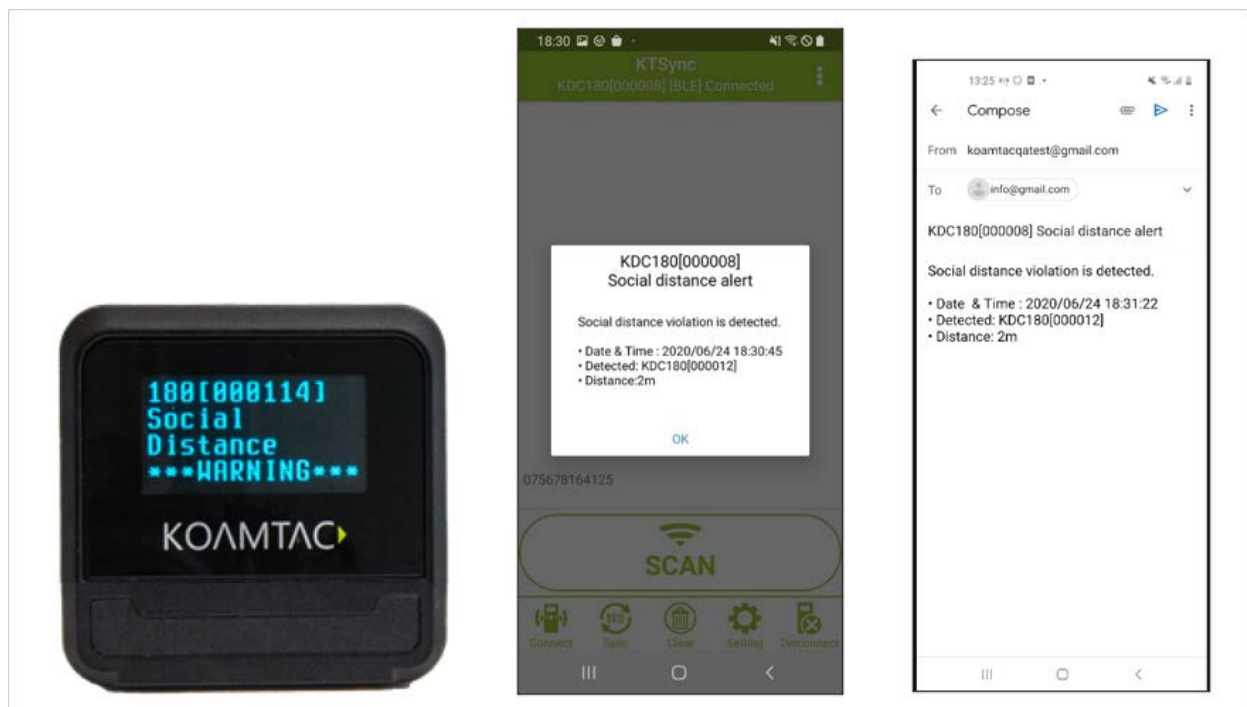

Figure 10 - Social Distance Alert Settings
- Social distance warning on KDC, showing your KDC serial number accompanied by **beep/vibration** if selected. (Figure 10)
- Social distance pop-up in KTSync showing your KDC serial number, the date and time of the violation, the serial number of the other detected KDC, and the distance if using the **host alert** setting. (Figure 10)
- Social distance email showing your KDC serial number, the date and time of the violation, the serial number of the other detected KDC, and the distance if using the **enable email sending** setting. (Figure 10)